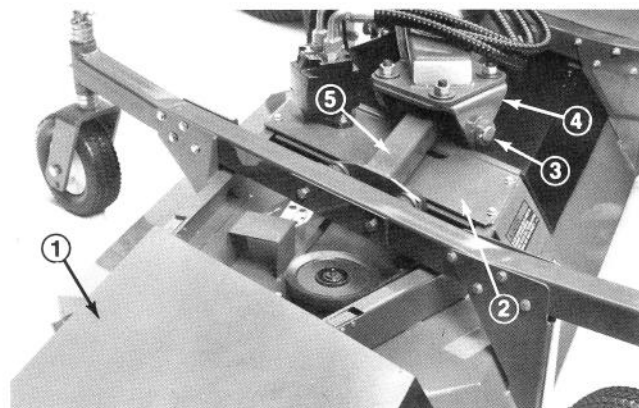

Figure 66
3. Remove flange head screws securing gearbox plate to deck. To separate plate and drive motor assembly from deck, rotate plate end toward traction unit (Fig. 66). Tip plate, motor and pulley assembly on its side and remove from deck. Be careful not to bend, twist, kink or damage flexible hydraulic lines.
4. Remove locknut securing deck pivot shaft into deck clevis and lift bar (Fig. 66).